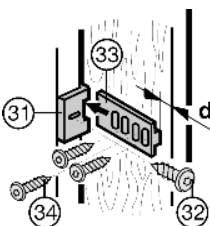

Fig. 19
- ▶ Fit door connecting element *Fig. 19 (31)* with screw *Fig. 19 (32)*, paying attention to the position of the handle.
- ▶ Slide in door connecting rail *Fig. 19 (33)* and fasten to the unit door with screws *Fig. 19 (34)*, maintaining clearance *d* (wall thickness of kitchen cabinet).